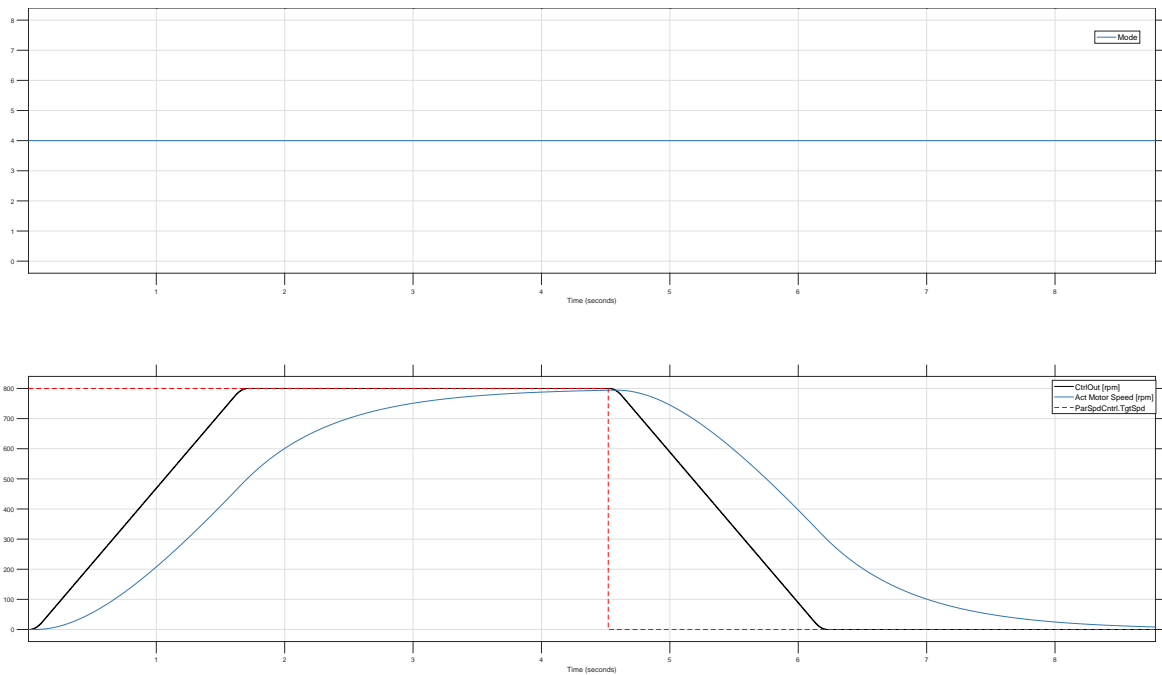
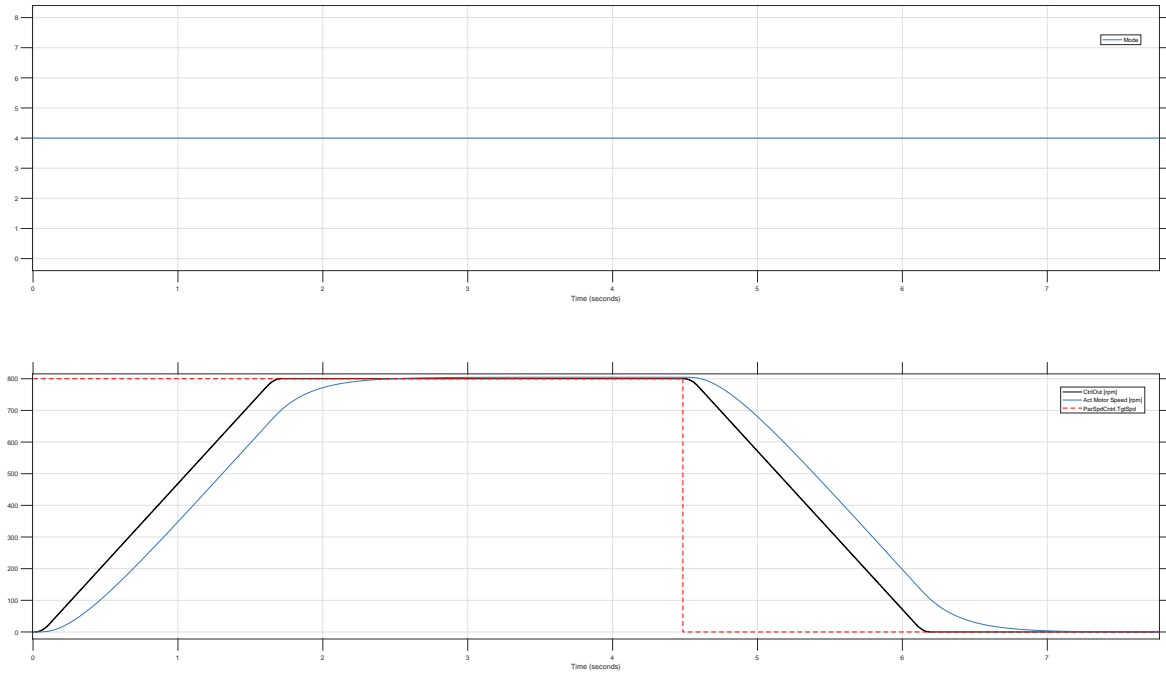

Figure 12: Frequency Drive with poorly set controller parameters. Large Lag Error and no Steady-State Accuracy.
Figure 14: Frequency Drive with poorly set controller parameters. Large Lag Error.
1. Issue of Motor Speed Control in figure 12:
3. The behavior in figure 14 is better than in both figures 12 and 13, but there is an issue: